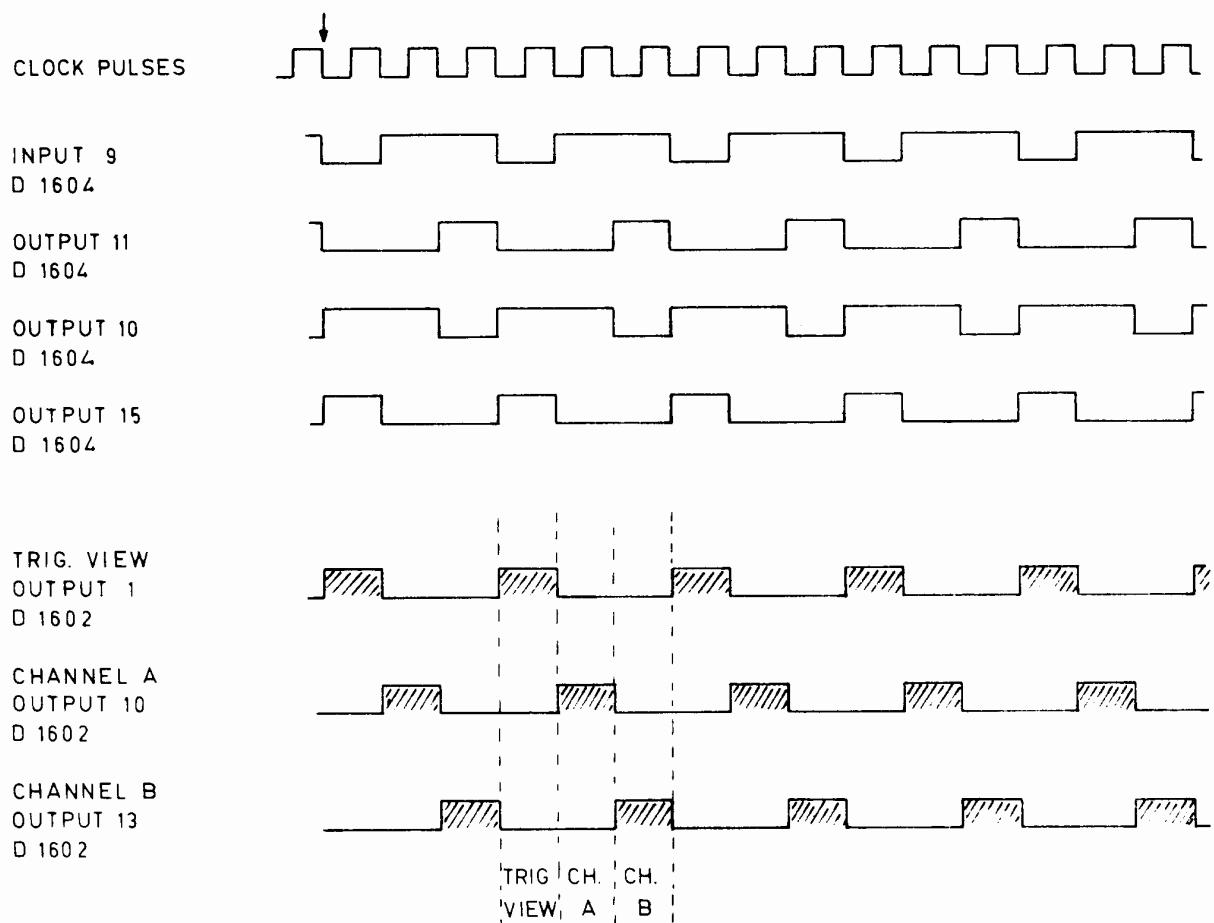

Fig. 3.4. Generation of control pulses.
- For the generation of the control signals see Fig. 3.4. Clock pulses are here the alternate pulses.
- For the generation of the control signals see Fig. 3.4. Clock pulses are here the chopper generator output pulses.